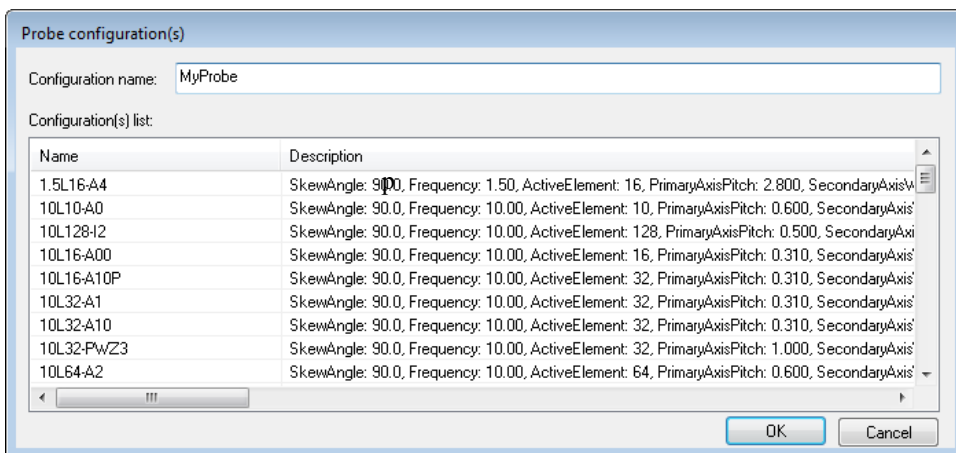

Figure 10-2 Saving with the Probe Configuration dialog box
2. Click  (Save in database button), and then click **OK** (see Figure 10-2 on page 135).